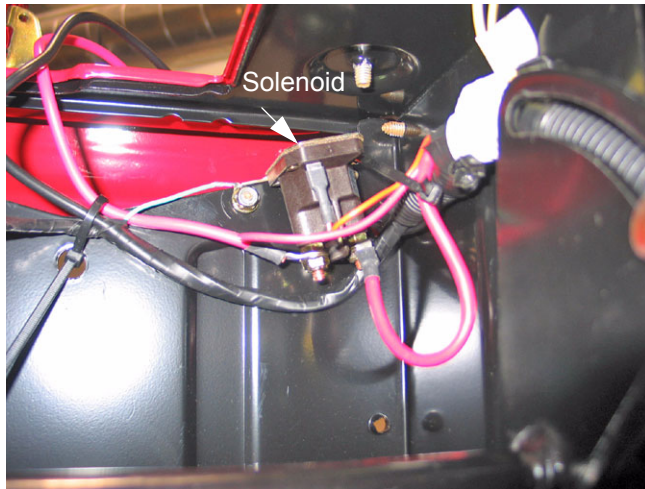

Figure 56
- 14.1. The solenoid can be inspected and serviced by removing the battery and battery box. See Figure 56.